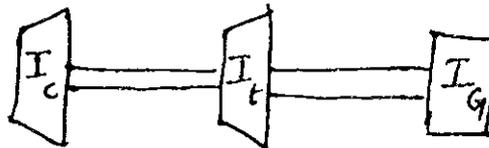

Fig. Q. 15 (b)
- (b) The arrangement of the compressor — Turbine and Generator in a power plant is as shown in Fig. Q. 15 (b). Determine the natural frequencies and mode shape of the system. Stiffness, $K_{t1} = 6 \text{ MN-m/rad}$; $K_{t2} = 3 \text{ MN-m/rad}$; MI of the compressor, $I_c = 18 \text{ kg-m}^2$ MI of the Turbine, $I_t = 14 \text{ kg-m}^2$ MI of the Generator, $I_g = 9 \text{ kg-m}^2$. (MI – Moment of inertia)